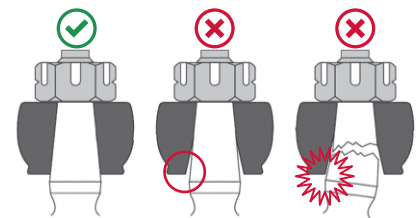

Figure 1
- If a broken, bent or loose ball joint stud is discovered, the knuckle must be replaced. If there is deformation, an out-of-round condition or damage to the tapered mating surfaces of the steering knuckle, it must be replaced (Figure 1).